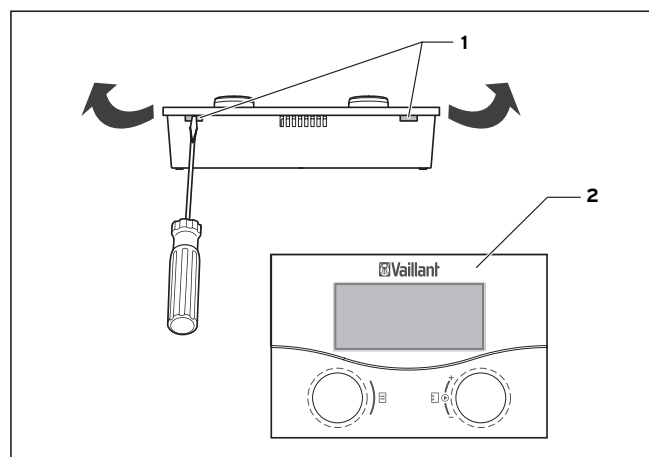

Fig. 3.1 Opening the remote control unit
- Open the unit (2) using a screwdriver in the two notches (1) on the underside as shown in Fig. 3.1.